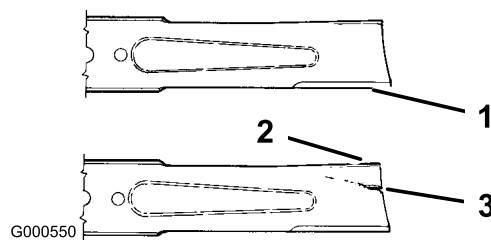

Figure 34
1. Inspect the cutting edges (Figure 34). If the edges are not sharp or have nicks, remove and sharpen the blades; refer to Sharpening the Blades.
2. Inspect the blades, especially the curved area (Figure 34). If you notice any damage, wear, or a slot forming in this area (item 3 in Figure 34), immediately install a new blade.